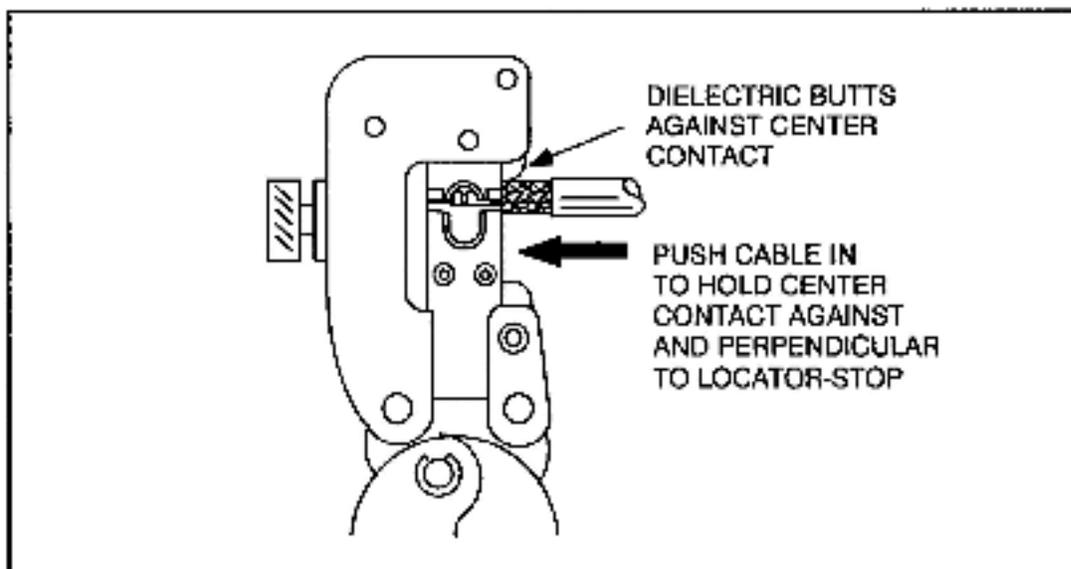

Figure 3.20 - Connector Installation Step 5 for RG-11/U Cable
- Step 5. Push the cable in to hold the center contact against and perpendicular to locator/stop as shown in figure 3.20.